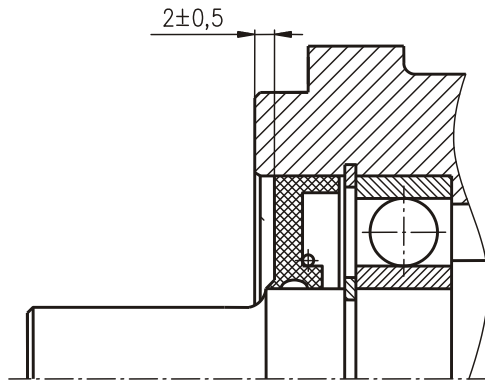

Fig. 11
8. Place a safety cap over the shaft journal to protect the seal lips against breaking. With seal driver stave in the housing shaft seal (see Fig.11).